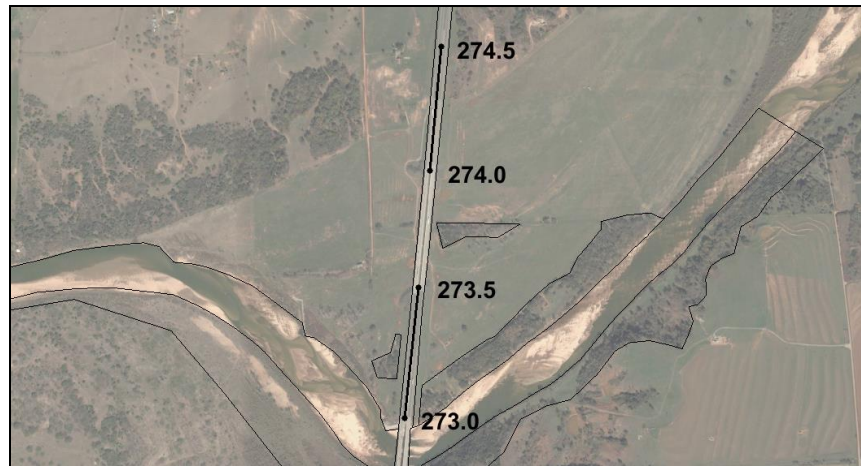

Figure 11 Roadway embankment arc and elevations
7. Using the **Create Feature Arc**  tool, click out two arcs for the road embankments as shown in Figure 11.
9. Repeat step 8 for each of the other three nodes, entering “274.0”, “273.5”, and “273.0”, as indicated to Figure 11.